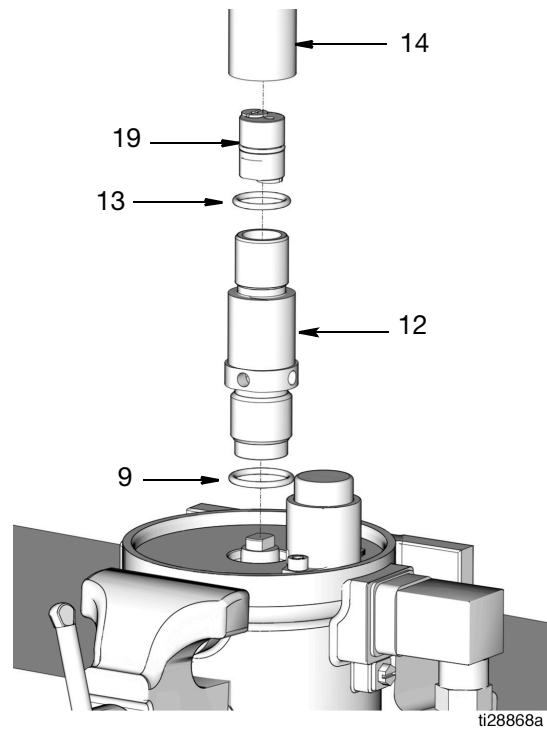

FIG. 18
15. Remove the o-ring (13) from the outlet tube (14). Remove the o-ring (9) from the pump cylinder (12). Dispose of the o-rings according to all regulations for proper disposal (FIG. 18).